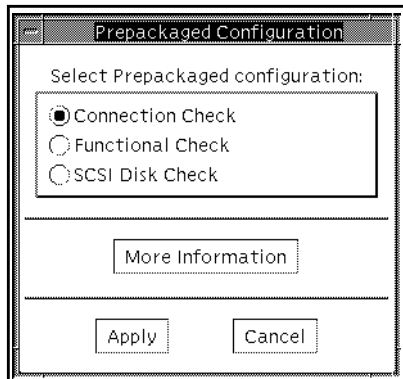

FIGURE 3-10 Selecting the Type of Check to Run under Prepackaged Configuration
- If you checked “Use prepackaged configuration,” a screen is displayed noting the types of checks that you can run (see FIGURE 3-10).